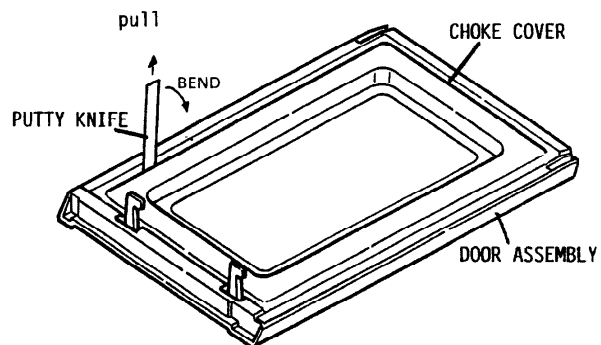

Figure C-11. Door Disassembly'
2. Insert an putty knife (thickness of about 0.5mm) into the gap between the choke cover and corner portion of door panel as shown Figure C-11 to free engaging parts.
5. Remove four (4) screws holding the door frame to the gutter for choke cover.